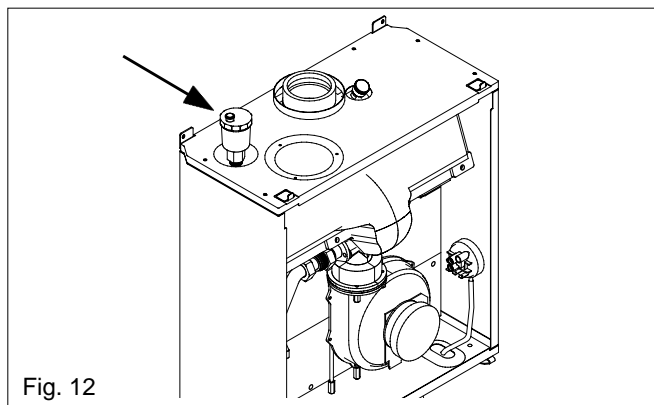

Fig. 12
Mount the AAV as shown in fig. 12.
5.3.1. Ensure both flow and return service valves are open, identify the automatic air release valve (fig. 12) and loosen the dust cap by turning the cap anti-clockwise one full turn.